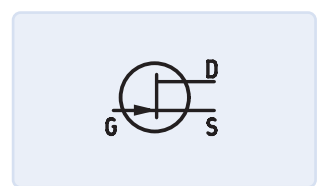

Figure 1: Schematic symbol of an n-channel JFET.
**Figure 1** shows the schematic symbol of an n-channel FET. If the arrow in the symbol points in the other direction, the associated device is a p-channel FET, which has the opposite polarity. The three terminals are called the *gate*, the *source*, and the *drain*. In terms of their functions, correspond roughly to the base, emitter, and collector of a bipolar transistor.